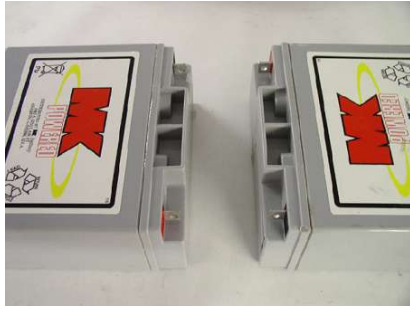
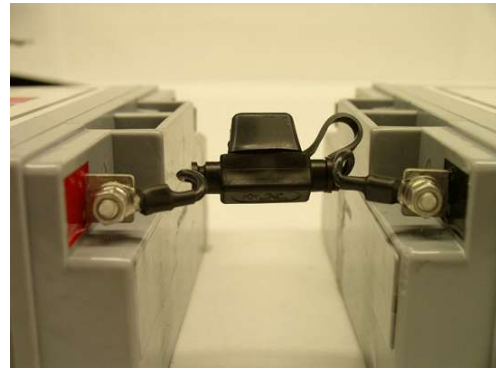

Figure 9
Figure 10
STEP 5: Lay the new batteries out so that the battery terminals are up and facing each other about 2 1/4" apart. (See Fig 9) Install the new fuse link wire(if supplied) in place of the jumper wire.(See Fig 10) If you are reusing the jumper wire make sure that you clean the terminals with steel wool before reattaching it. Note the direction of the bolt going through the battery terminal. The proper assembly order is the bolt, fuse terminal wire, flat washer, lock washer, and the nut.(See Fig 11-13) Note the direction of the wire to the terminal. This is important for clearance purposes.